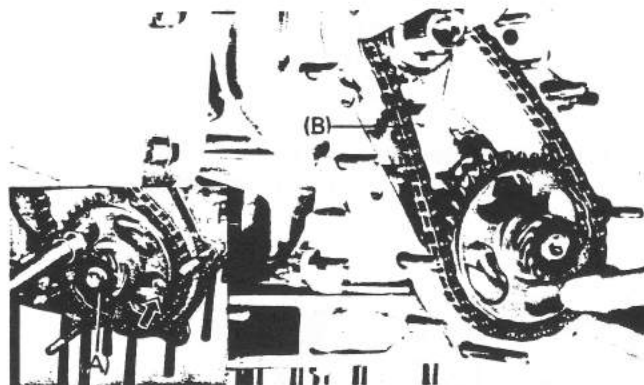

Fig. 54
a. Undo two nuts securing the camshaft (A)
b. Remove the camshaft & camsprocket wheel and the timing sprocket wheel together with the timing chain (B) from the crankshaft and the cylinder block as shown in Fig. 54.